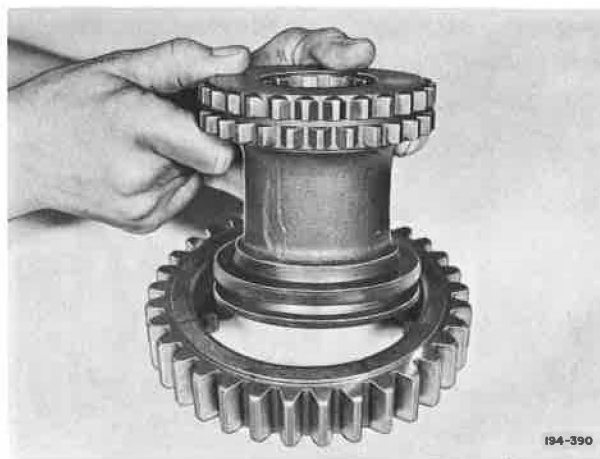

Figure 5-179. Installing Main Driving Pinion Sliding Clutch in Hi-range Gear
24. Assemble the main driving pinion sliding clutch into the main driving pinion Hi-range gear, Lo-range for TRDXL107, 1071. See Figure 5-179.